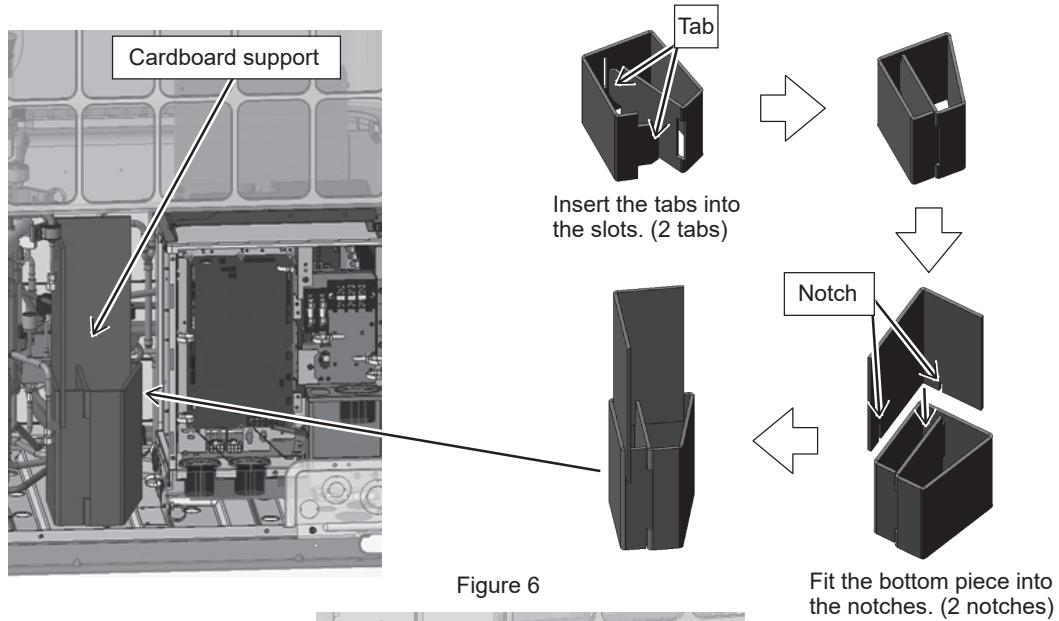

Figure 6
- (7) Before placing the transformer box, set the cardboard support (*applicable to the XL and EXL modules only). (Figure 6)